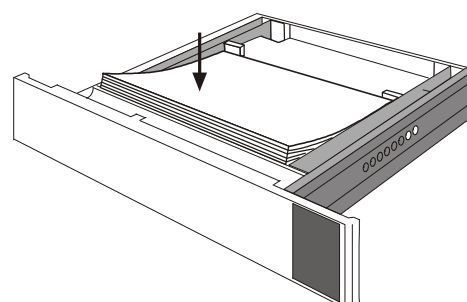

Fig. 15 Filling in Paper
- Insert approx. one third of the ream in the tray and ensure that all paper is lined up with the rear stop. Repeat two more times for the rest of the ream (Fig. 15).